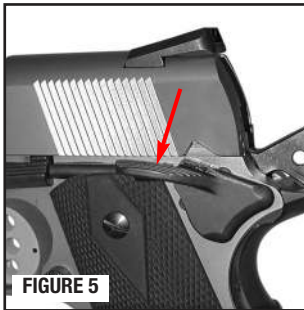

FIGURE 5
- If the hammer is cocked and the safety is up in the “safe” position, depress the safety lever into the fully down “fire” position (FIGURE 5) to allow the slide to be drawn to the rear.